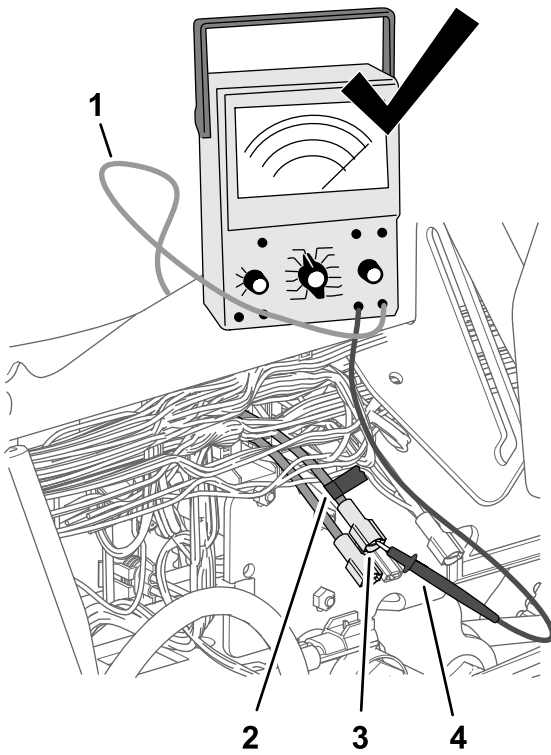

Figure 188
4. Use a piece of tape to mark the connector and wire that you identified in step 3 (Figure 188).